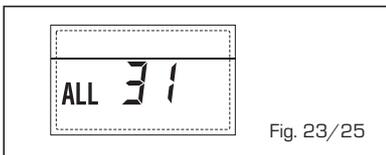

Fig. 23/25
- **THREE-ZONE SYSTEM CONFIGURATION ANOMALY "ALL 32" (fig. 23/26)**